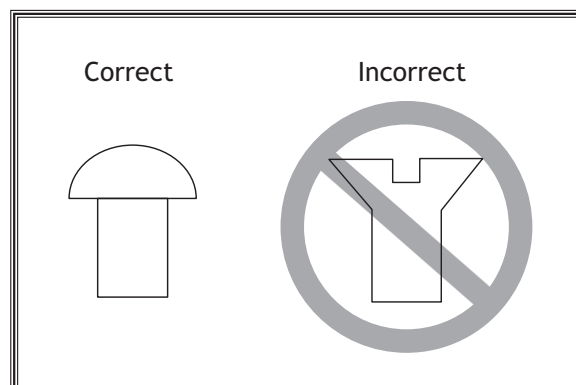

Figure 34. Correct/incorrect screw types for mounting faceplate to workpiece.
**Note:** If your workpiece is over 2" x 2", cut corners off workpiece lengthwise to make turning safer and easier (see **Figure 34**).
2. Center faceplate on workpiece, securely attach workpiece to faceplate—only use wood screws WITHOUT tapered heads (see Figure 34).